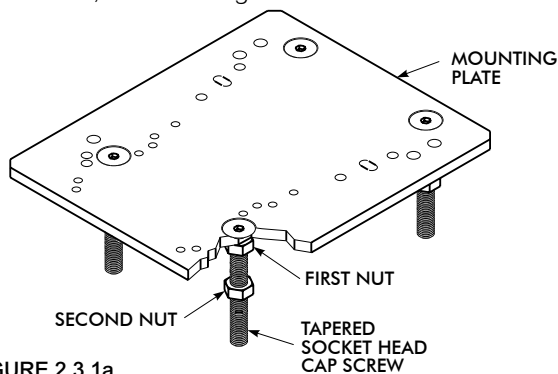

FIGURE 2.3.1a
1. Place top motor mounting plate/cap screw assembly onto the mounting brackets so that the part number on the plate is towards the output end of the speed reducer; reference Figure 2.3.1a.